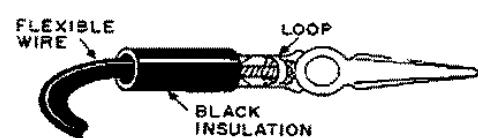

Figure 23 - How to attach the flexible wire to the alligator clip.
- () Slip the alligator clip over the free end of the black flexible ground lead. Push the bare end of the wire under the small loop in the clip and solder the connection. See Fig. 23.